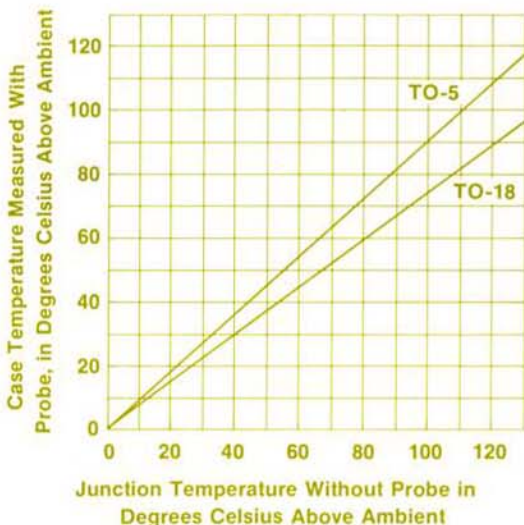
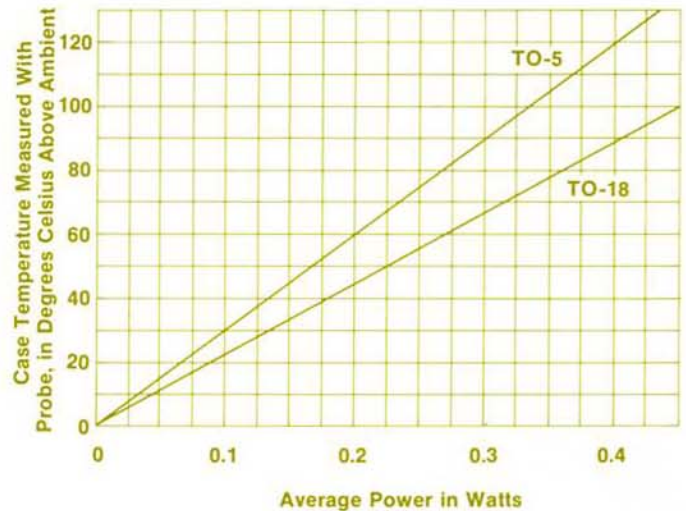

Figure 3. Measured Case Temperature vs Junction Temperature.
Figure 4. Measured Case Temperature vs Power.
With the calibration procedure described in this application note, you can determine both the junction temperature and the corresponding average power input by simply making transistor case temperature readings with the Temperature Probe. The graphs of figures 3 and 4 illustrate the relationship between the probe indicated case temperature above ambient, the transistor junction temperature without temperature probe influences (figure 3) and the actual transistor power input (figure 4).
6. Construct a conversion chart similar to figure 4 of power input (P_{heat}) vs temperature probe reading (T_C) minus ambient temperature; and construct a second conversion chart similar to figure 3 of junction temperature (T_j) minus ambient vs temperature probe reading (T_C) minus ambient.
Following these steps gives you a more precise measurement than using the standard conversion charts (figures 3 and 4) since the charts are constructed with data from a device configured to match its operational environment. The procedure also allows you to construct accurate conversion charts for unique or specially designed semiconductor packages.